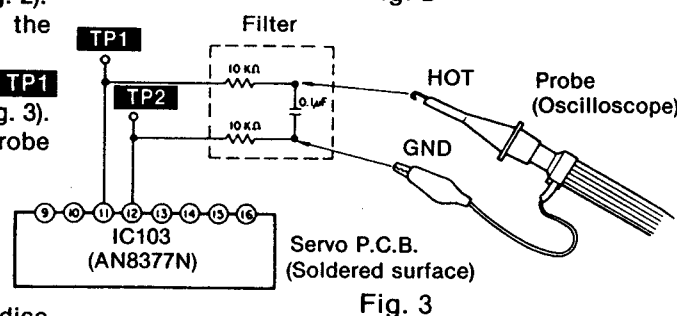

Fig. 3
3. Connect the oscilloscope's CH. 1 probe across TP1 (+) and TP2 (-) terminal via a filter (Refer to Fig. 3).